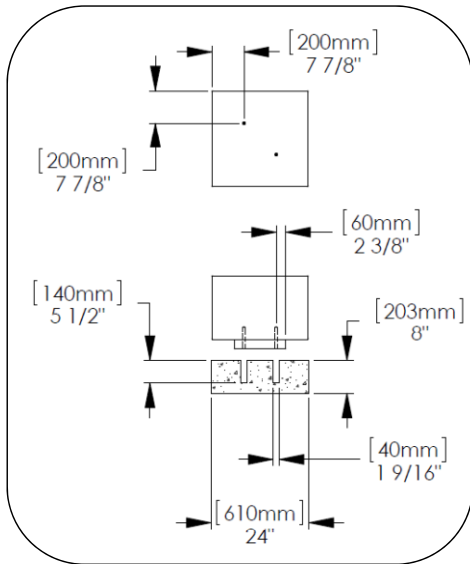

Fig. 2– 24in bench
3. Drill holes according to Fig. 2.